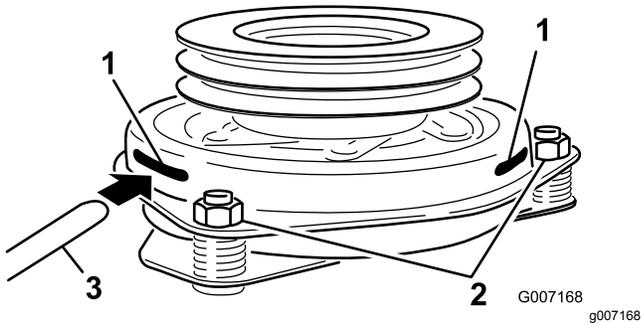

Figure 83
9. Insert a 0.381 to 0.533 mm (0.015 to 0.021 inch) feeler gauge through an inspection slot in the side of the assembly (Figure 83).
10. Tighten the locknuts until there is slight binding on the feeler gauge but it can be moved easily within the air gap (Figure 83).